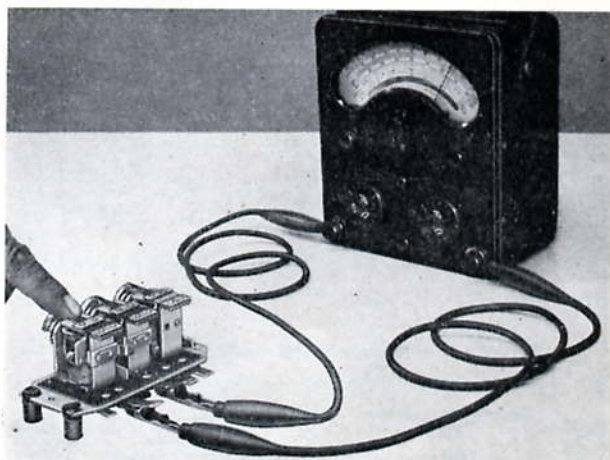

Fig. P.35. Testing the controller field resistor
3. Depress one of the regulator armatures to open the contacts (Fig. P.35). A reading of 55 to 65 ohms should be obtained.